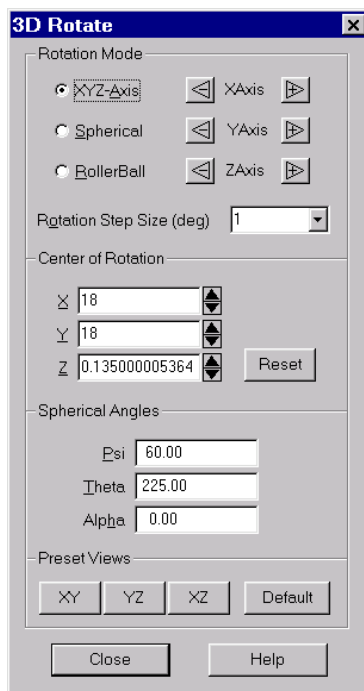

Figure 9-14. The 3D Rotate dialog.
9.6.2.2. Rotate Using the 3D Rotate Dialog. You may also rotate your plots using the 3D Rotate dialog under the View menu, shown in Figure 9-14. At the top of this dialog, there are three options specifying three rotation modes—XYZ-Axis, Spherical, and Rollerball. Depending on the rotation mode chosen, the array of buttons to the right of the options will vary. To rotate the image, click these options. Each click rotates the image by the number of degrees specified in the Rotation Step Size text field.